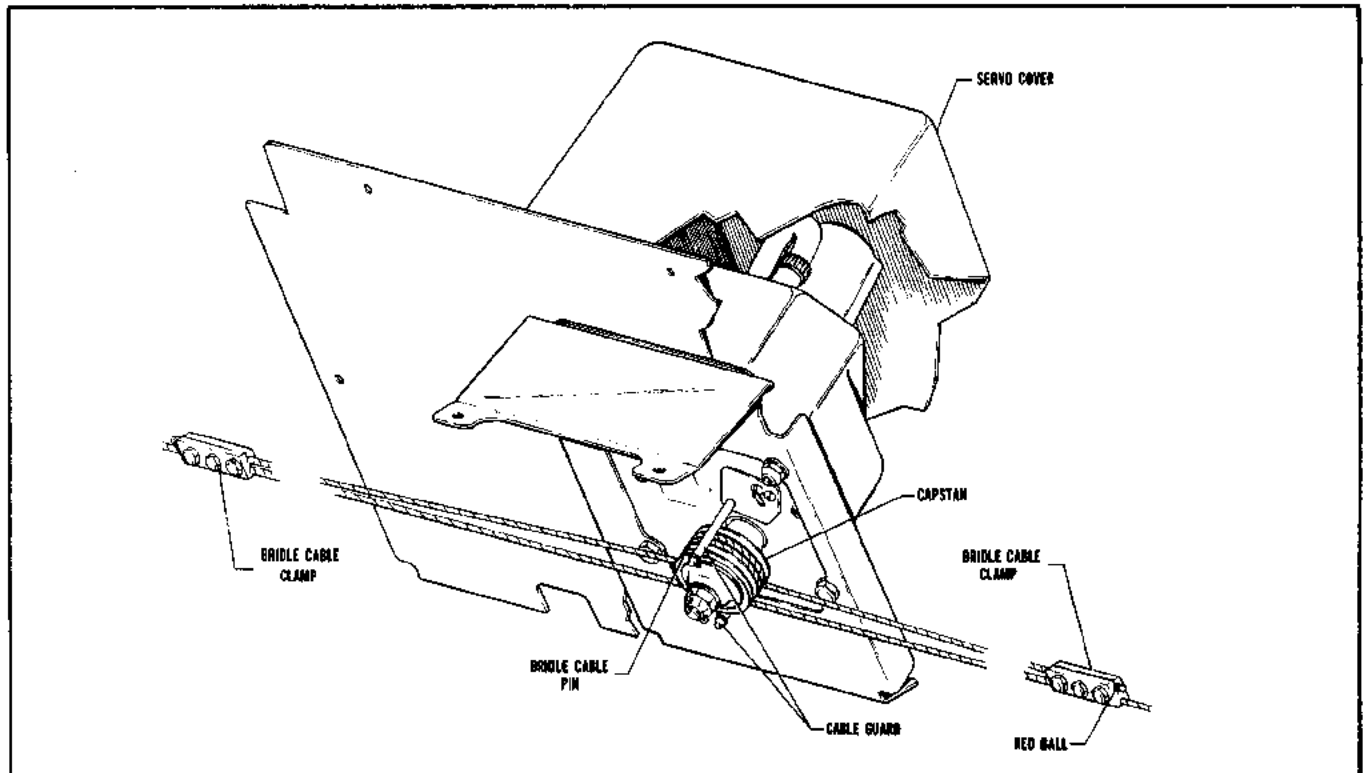

Figure 3-15. Roll Servo Installation, PA-23-250 (Six Place)
### 3-19. INSTALLATION OF ROLL SERVO. (PA-23-250 Six Place) E & F Models. (Refer to Figure 3-15.)
f. REFER TO FIGURE 3-8 AND CHECK THAT CONTROL CABLE TENSION (Z) IS ADJUSTED TO  $40 + 8 - 0$  POUNDS PRIOR TO ATTACHING THE BRIDLE CABLE CLAMPS. Ascertain area on cable where clamp attaches is clean, dry and free of all lubricants and anti-corrosive additives. Attach the bridle cable to the aileron balance cable. The bridle cable is drawn to the balance cable and attached with clamps at the previously painted locations on the balance cable. The end of the bridle cable with the red ball extends toward the right side of the airplane. (Refer to Figure 3-15.) (Should the balance cable not be painted, position the control wheel in neutral and align the bridle cable pin, installed in the capstan, as shown in Figure 3-15.) Adjust the bridle cable clamps so the bridle cable tension (Y) is equal to the control cable tension between the bridle cable clamps (X) as shown in Figure 3-8 without increasing the control cable tension from the bridle cable clamps outward. At no time shall the bridle cable tension be greater than the control cable tension between the clamps. Adjusting the bridle cable tension will lower the control cable tension between the two bridle cable clamps. Torque the bridle cable clamp bolts to  $55 \pm 5$  inch-pounds.